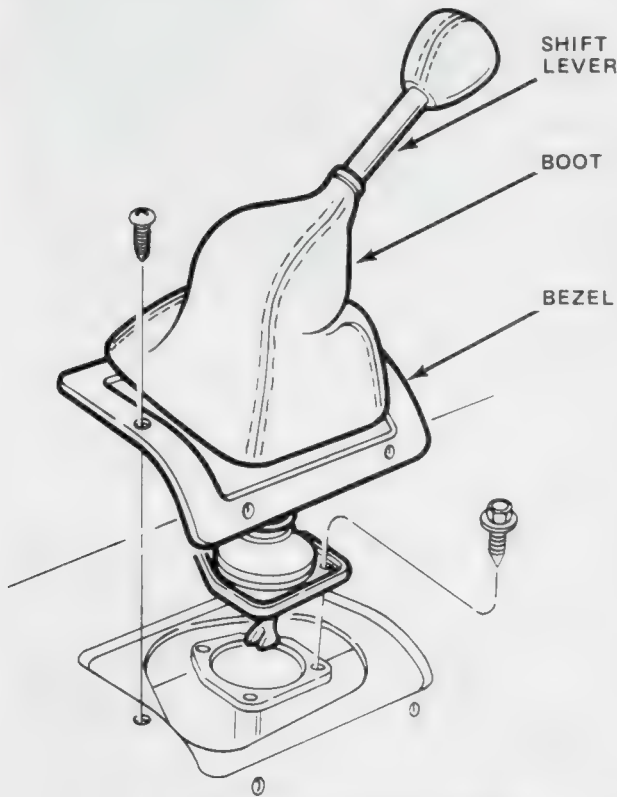

Fig. 2B-20 Gearshift Lever—Model SR4
(1) Remove large access plug from extension housing using hammer and punch (fig. 2B-21).